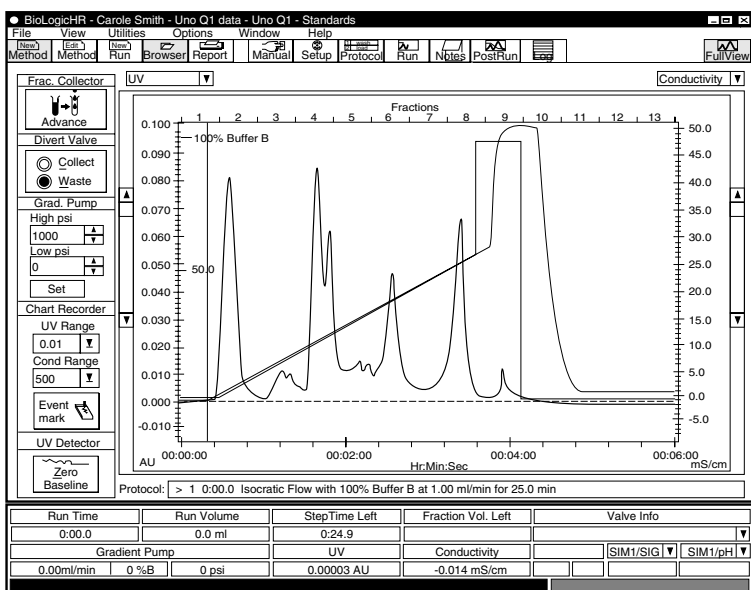

Fig. 10. Run Control Screen showing a completed run on a Manual BioLogic HR System.
- When you have finished with the protocol editor, click on the toolbar button **RUN**. You will see a dialog box asking you to name the run. For now, type in Run 1 and click the **OK** button. You will now see the Run Control Screen (see Figure 10).
7. Figure 10 shows a typical run control screen and chromatogram for this separation.